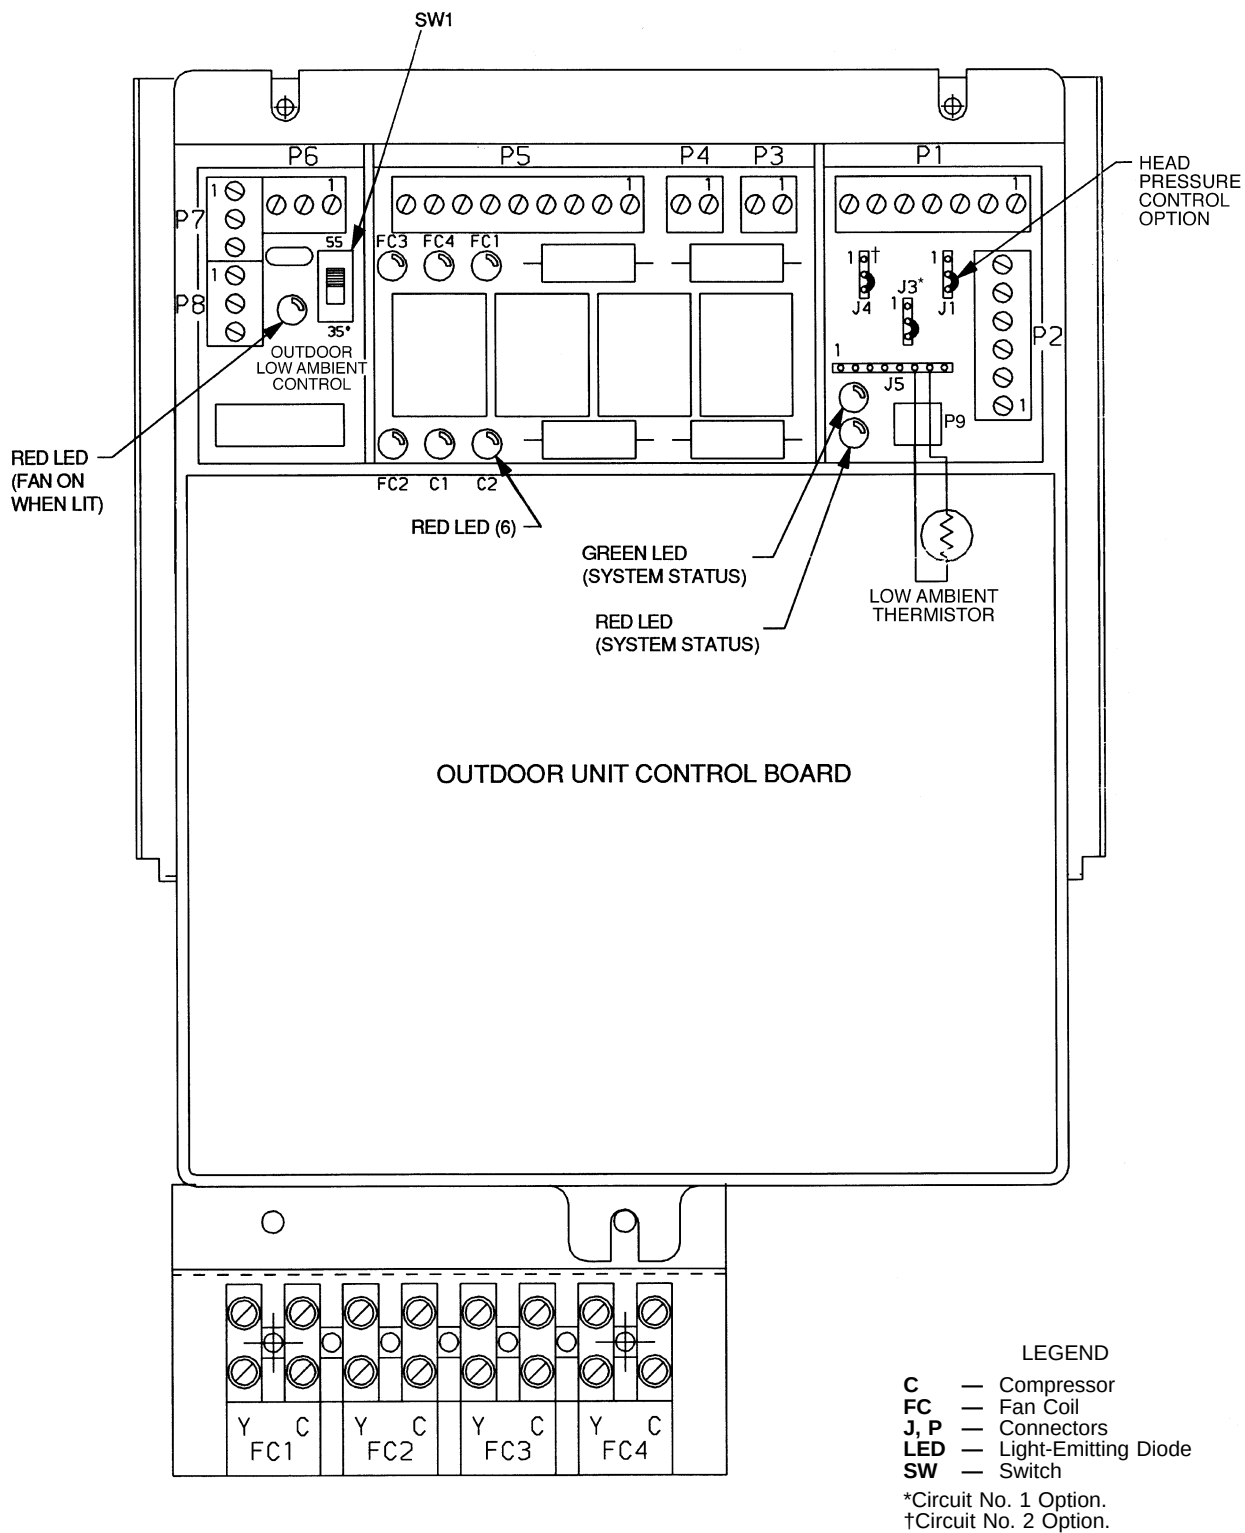

Fig. 15 — Outdoor Unit Microprocessor Control Board
2. Route 24-v control wiring through wiring hole on the outdoor unit. See Fig. 12 for typical connections for each type of fan coil. See Fig. 13 and 14 for 38HDS component arrangement and unit wiring details. See Fig. 15 for 38HDS control board detail.
RECONFIGURE FOR ONE FAN COIL UNIT PER COMPRESSOR CIRCUIT IF NECESSARY — The control also provides the option of using either 1 or 2 fan coil units per compressor (depending on the position of the jumpers on J3 and J4 on the control board). See Fig. 15. The control is pre-set to 2 fan coil units per compressor at the factory. If only one fan coil per compressor is to be used, position a jumper between pins 1 and 2 on J3 and J4 (one jumper for each set of pins). Jumper J3 is associated with the compressor on the 38HDS024 units and compressor number 1 on 38HDS048 units (bottom compressor). Jumper J4 is associated with compressor number 2 on the 38HDS048 units.
The factory set points for the head pressure control operation are 55 F for outdoor ambient temperature and 250 psig for discharge pressure. The current set points can be determined as follows (see Fig. 15): If pin numbers 2 and 3 on J1 are jumpered, the setting is 250 psig (factory setting); if pin numbers 1 and 2 are jumpered, the setting is 200 psig. When switch SW1 is set at the top setting, ambient set point is 55 F. When the switch is set to the bottom setting, ambient set point is 35 F.
STATUS INDICATOR LIGHTS (See Table 3 and Fig. 15) — The 38HDS control board is equipped with LED (light-emitting diode) indicators to aid in evaluating the status of the control system, including:
TIME-DELAY DEVICE OVERRIDE — The time delay device can be overridden for easier unit servicing by temporarily shorting the time delay device override connector (P9) located in the control box (see Fig. 15). The short **MUST** be removed before the time delay device timer can be cleared.